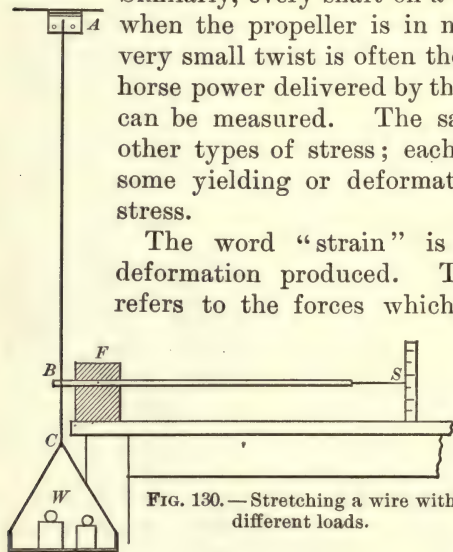

FIG. 130.—Stretching a wire with different loads.
I. *Tension*. Let us fasten one end of a piece of steel or spring-brass wire in a clamp near the ceiling, and attach a pan for weights to the lower end of the wire (Fig. 130). Since the stretch will be small, it is necessary to use a lever or some other device to magnify it. Having placed just enough weight in the pan to straighten the wire, we add weights one at a time and read the corresponding positions of the pointer. Each time we must remove the added weights to see if the pointer comes back to its original position. When it fails to do this, we will stop the experiment and disregard, for the moment, the last reading of the pointer. If we then compute from each deflection of the pointer the actual stretch or elongation of the wire, and divide each stretch by the force causing it, we will find that all the quotients are approximately the same. That is, the stretch is proportional to the load.